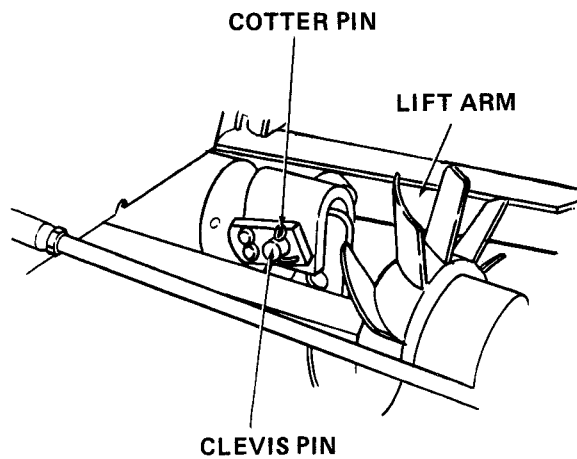

Figure A-16
- 5. Connect front end of implement lift bar (2) as follows (applies to Model 389 only). Refer to Figure A-16.